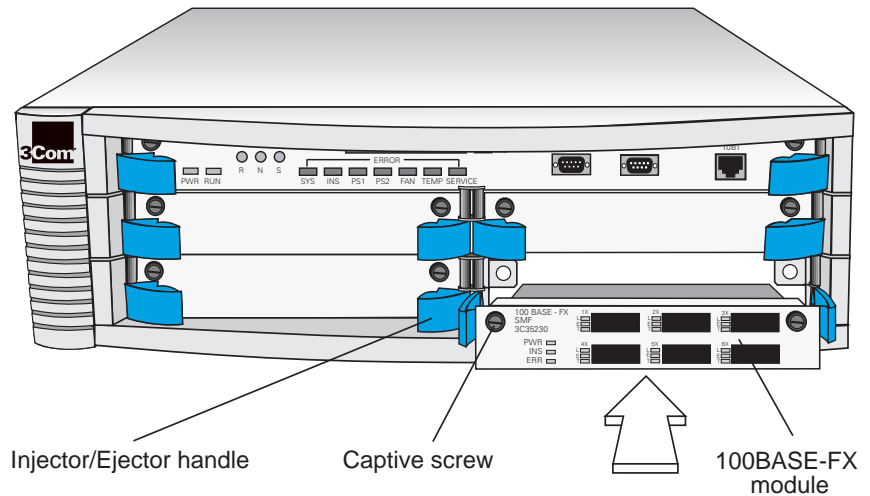

Figure 2 Installing the 100BASE-FX Module
- 3 With the injector/ejector handles in the outward position, place the module between the guides of the selected slot and gently slide it into the chassis, as shown in Figure 2.